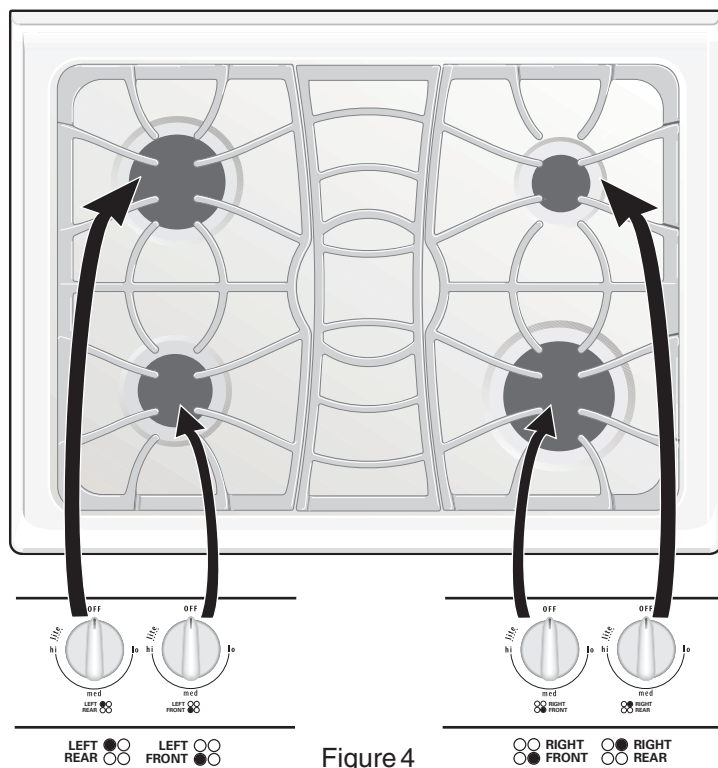

Figure 4
The small **SIMMER** burner is best used for simmering delicate sauces, etc. This burner is located at the right rear burner position on the cooktop (see Figure 4).
The **STANDARD** burner can be used for most surface cooking needs. The 2 burners are located at the left front position on the cooktop (see Figure 4).
The **POWER** burners are best used for bringing large quantities of liquid rapidly up to temperature or when preparing larger quantities of food. The 2 POWER burners are located at the right front and left rear burner positions on the cooktop (see Figure 4).
1. Touch the  pad at the Warm & Serve Drawer control position (see Figure 4). The Warm & Serve Drawer indicator light will flash. Note: If no further pads are touched within 25 seconds the request to power the Warm & Serve Drawer ON will clear.